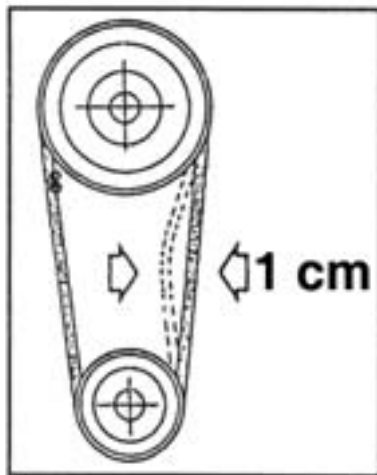
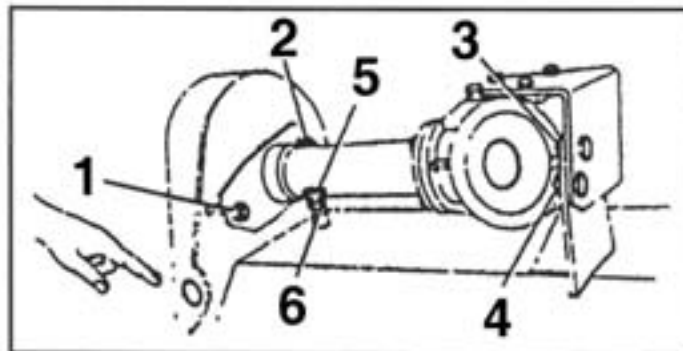

Fig. 8
Fig. 9
1. Check belt tension before each use (*Fig. 8*). The tension is correct when you can depress one belt 1 cm ($3/8$ ") between the two pulleys. It is possible for you to insert a tool through the belt cover (*Fig. 9*), with shredder stopped, to check the tension.
2. To adjust the belt tension, loosen bolts 1, 2, 3 & 4 and locknut 6 (*Fig. 9*). To adjust tension, move bolt 5. Do not forget to tighten all bolts after correct belt tension is achieved. If a belt requires replacement, replace all other belts as well.